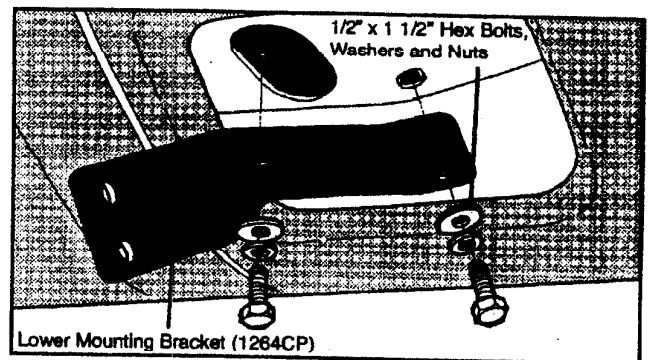

Figure 2
5) Attach the Lower Mounting Bracket (1264CP) to the bottom of the bumper using the Nut plate, 1/2" x 1 1/2" Hex Bolts, Washers and Nuts. (See Figure 2)